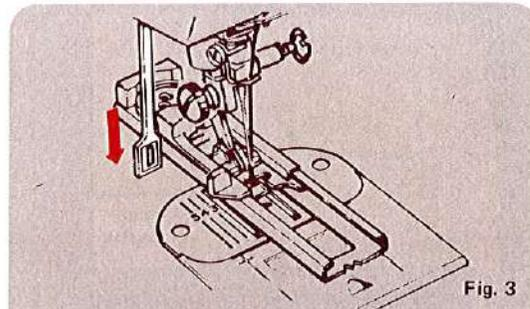

Fig. 3
2. Pull down buttonhole lever. (See Fig. 3)